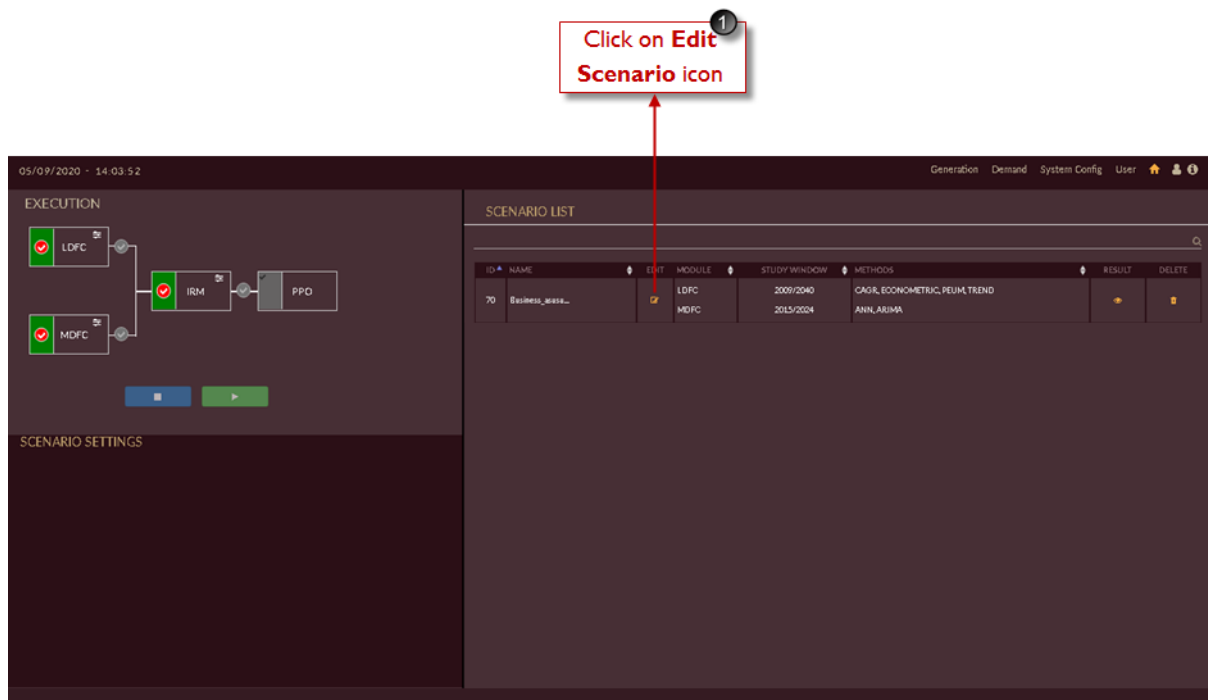

Figure 66. Edit in Scenario List Page
- I. In the scenario list shown in Figure 66 click on the **Edit scenario** icon.